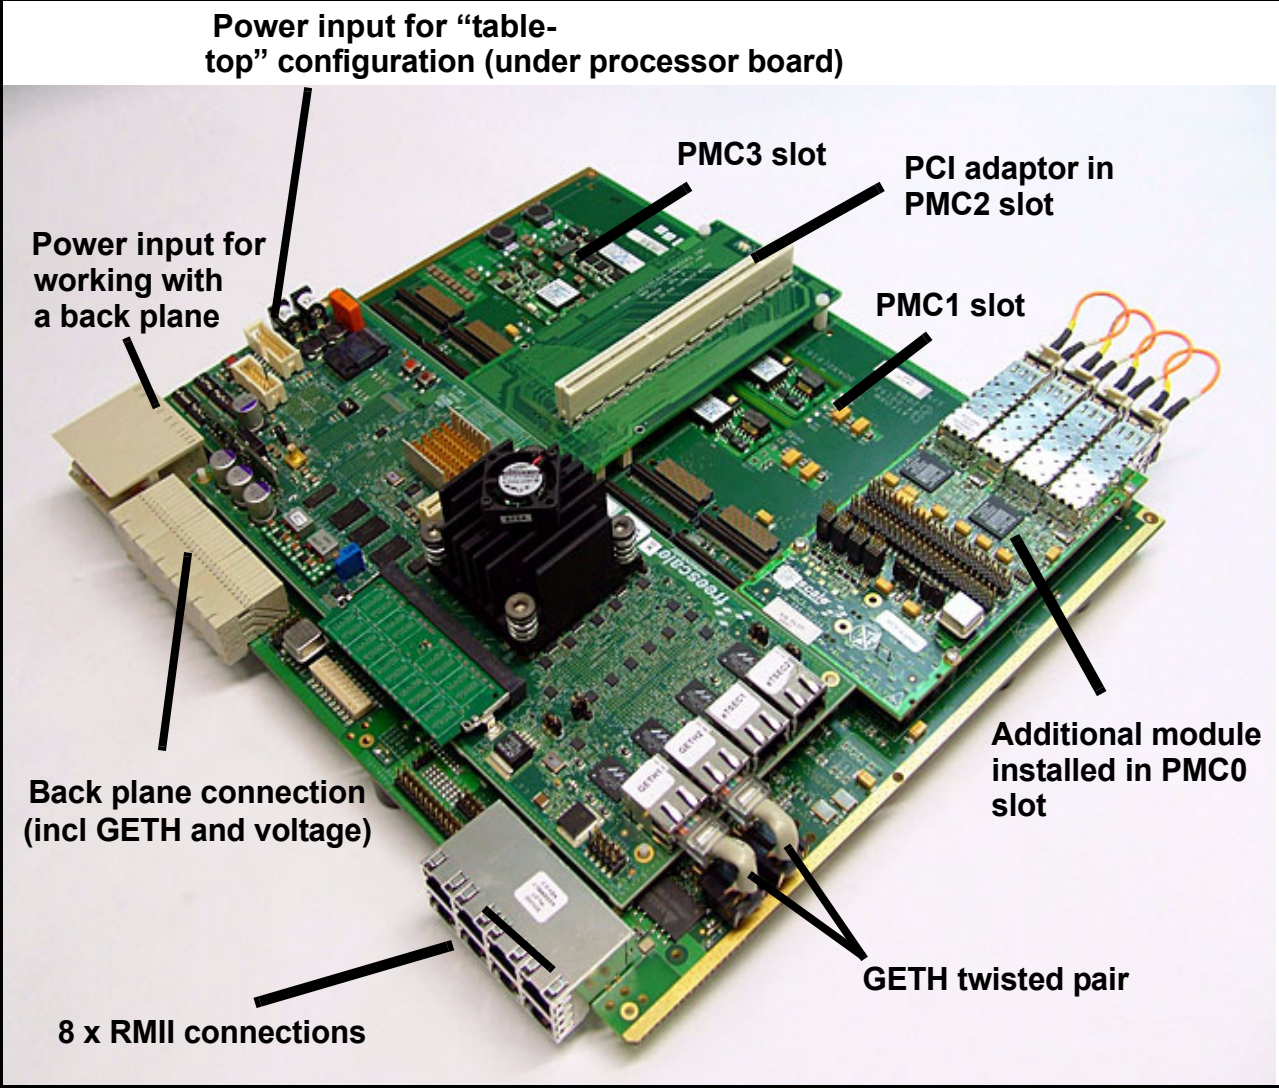

Figure 2-14. Fully Assembled Combined system:
9. A fully assembled PIB-Processor board combination is shown in Figure 2-14.
In Figure 2-14, one PCI adaptor and one additional module are shown installed on the PIB. The PCI adaptor is ready to receive any PCI-compatible board, including an 8Xxx Processor board. Using this system, these board(s) function as agents, while the Processor board already installed functions as a host. This allows you to take advantage of the parallel processing capabilities of the 8Xxx line of products.
3. Insert a PCI adaptor into the PIB (as shown in Figure 2-11 and Figure 2-12 on page 2-7) in the PMC slot in which you want to install the agent board. See Figure 2-14 (above) for indications of the PMC slot numbering.